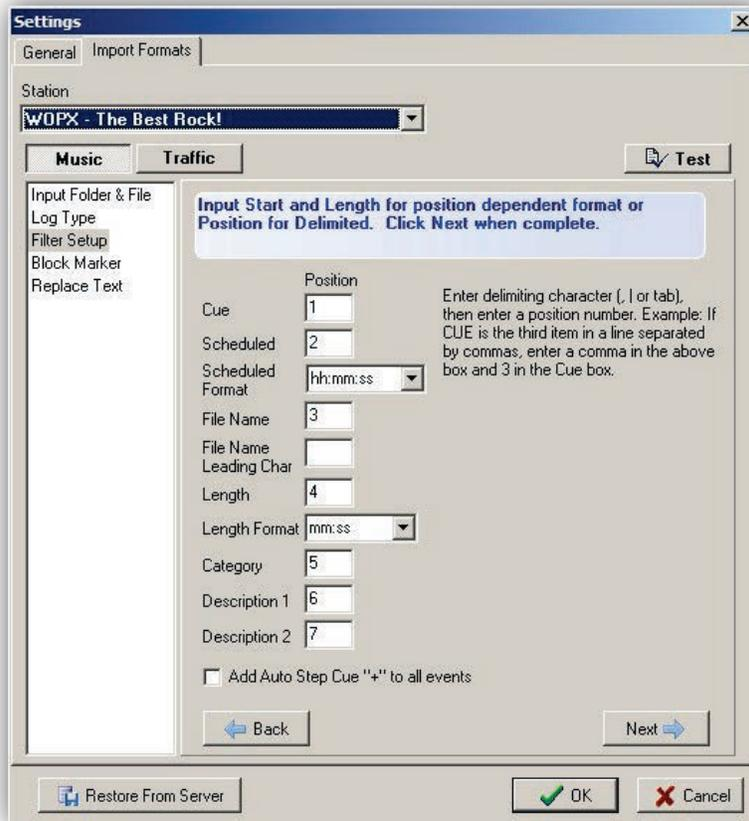

Figure 9-9. Example of Configuring a Delimited Import Format
4. When configuring a delimited import format, enter the field order of each piece of data from your log (see Figure 9-9). Enter the field number of each field type into each corresponding **Position** field. Use the **Scheduled Format** and **length Format** fields to specify the time format your import file gives in the **Scheduled** and **Length** fields.